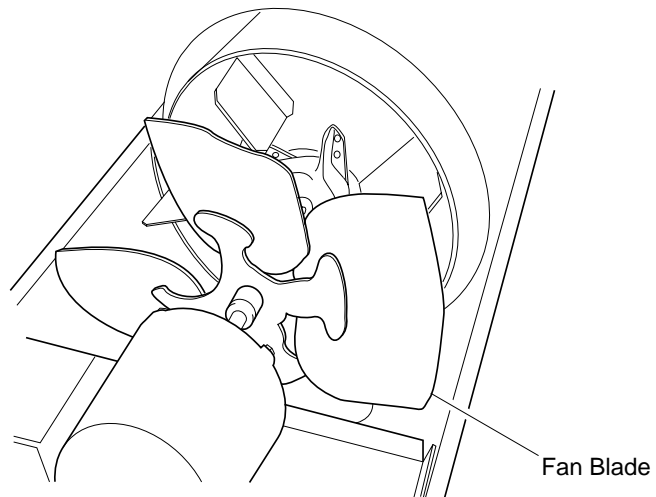

Figure 6 - Fan Blades
2. Clean fan blades with clean, soft cloth moistened with kerosene or solvent (see Figure 6).